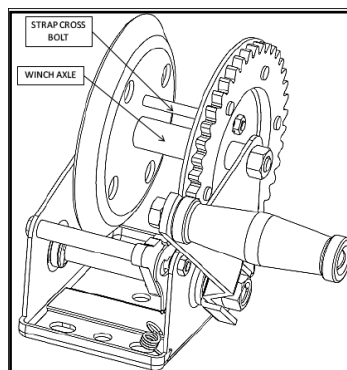

FIGURE 2
2. SLIP THE LOOP ON THE STRAP THROUGH THE STRAP CROSS BOLT, SHOWN IN FIGURE 2. TIGHTEN STRAP CROSS BOLT WITH PROVIDED NUT. TORQUE TO 10FT-LBS. (14N-M). TORQUING ABOVE THIS COULD RESULT IN THE WINCH BENDING AND CAUSE IT TO FAIL BELOW CAPACITY. CHECK TO ENSURE WINCH SPINS FREELY BY HAND.
2. FAITES GLISSER LA BOUCLE SUR LA SANGLE À TRAVERS LE SERRAGE EN CROIX DE LA SANGLE, COMME MONTRÉ À LA FIGURE 2. SERREZ LE SERRAGE EN CROIX DE LA SANGLE AVEC L'ÉCROU FOURNI. COUPLEZ À 10 PI-LBS. (14 N-M). COUPLEZ AU-DESSUS DE CELA POURRAIT CONDUIRE À LA DÉFORMATION DU TREUIL ENTRAÎNANT SA DÉFAILLANCE EN-DEÇÀ DE SA CAPACITÉ. VÉRIFIER À LA MAIN QUE LE TREUIL TOURNE LIBREMENT.